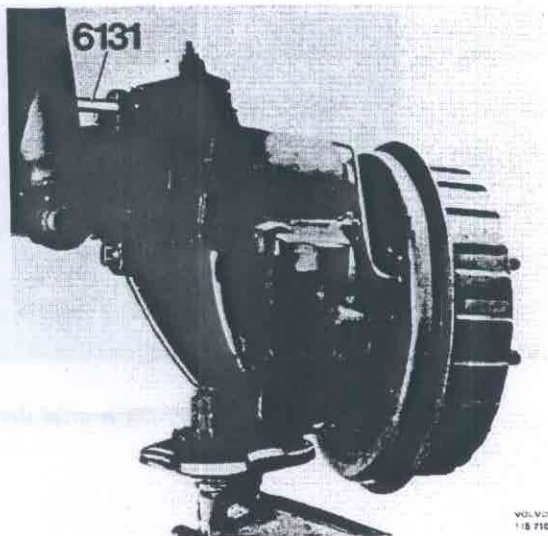

Fig. 46-26. Removing the wheel carrier
4. Remove the plate for the hollow rubber spring. Remove the upper bolts and fit the guide pins 6131, see Fig. 46-26.